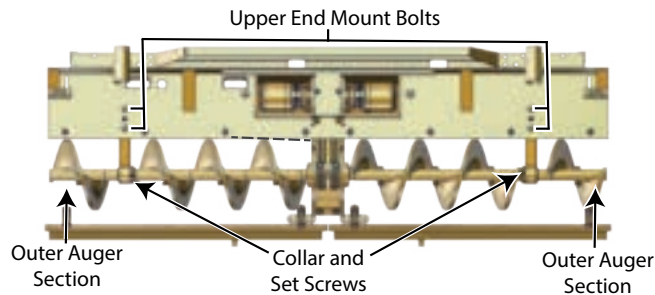

Figure 5-38. Outer Auger and Upper End Mounts
2. Remove the outermost auger section. (**Figure 5-38**)